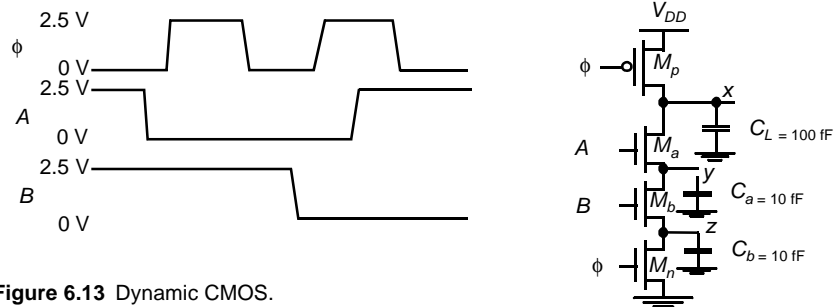

Figure 6.13 Dynamic CMOS.
- [M, None, 4.3] Sketch the waveforms at  $x$ ,  $y$ , and  $z$  for the given inputs (Figure 6.13). You may approximate the time scale, but be sure to compute the voltage levels. Assume that  $V_T = 0.5\text{V}$  when body effect is a factor.